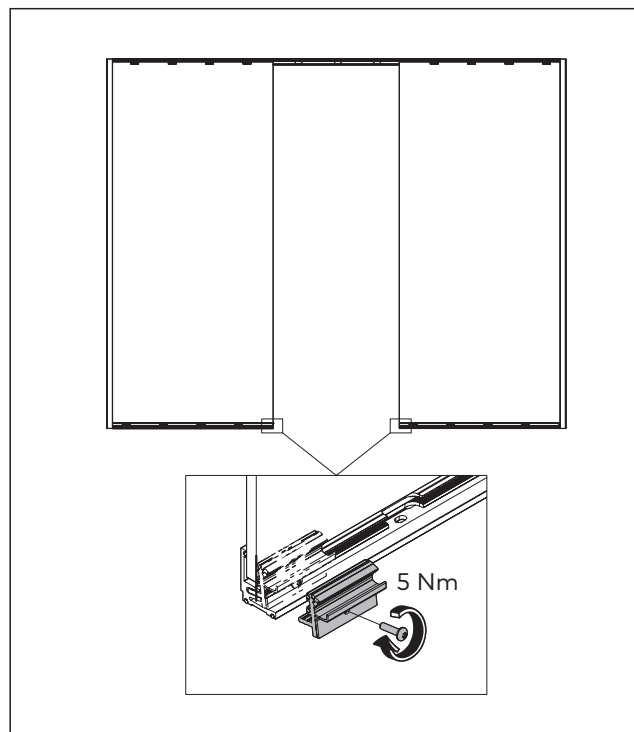

Fig. 3 Mounting clamping pieces in the passage area
1. Mount 1 clamping piece to both the left and right in the passage area flush with the glass edge and the mounting profile (Fig. 3).